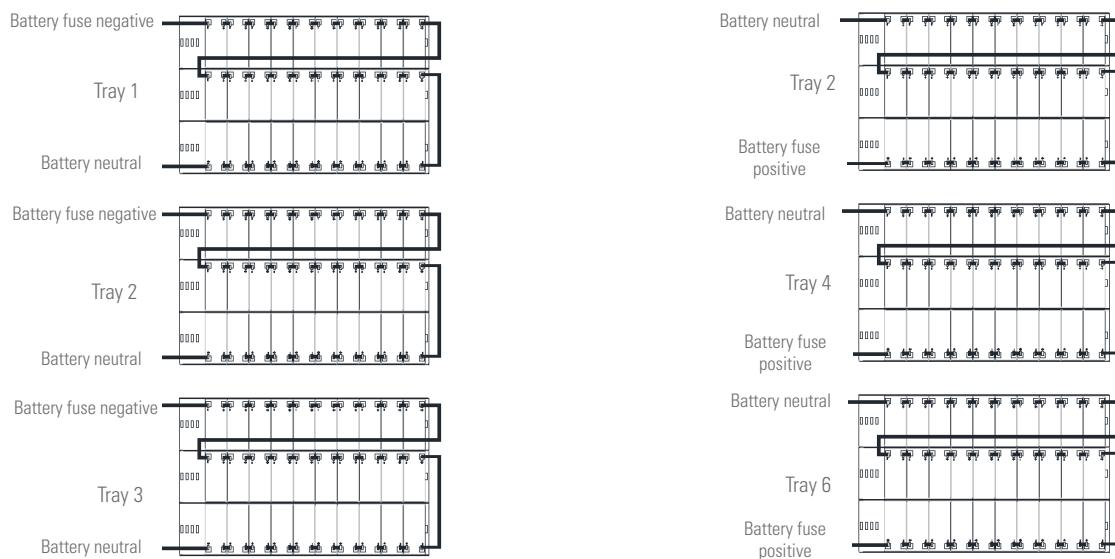
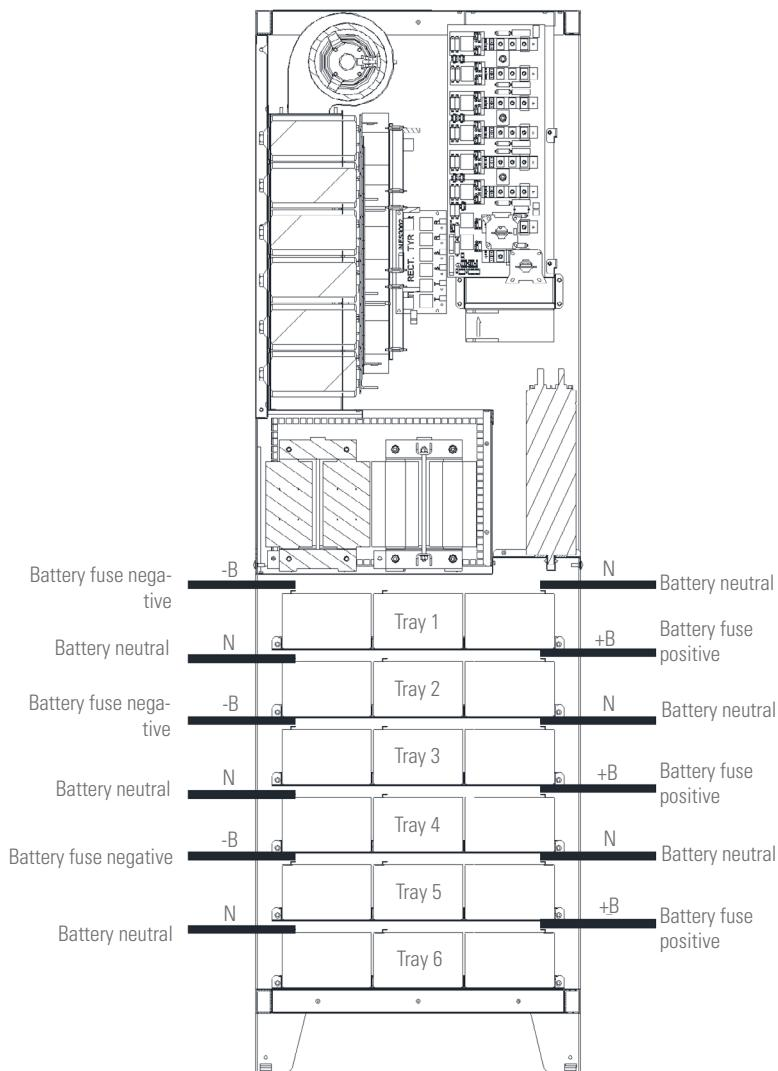

Fig. 27. Top view of the battery connection tray (12 V, 7-9-11 Ah).
Fig. 29. Front view of the battery connection tray (12 V, 7-9-11 Ah).
- Install the batteries received in separate packages as indicated in Fig. 27 and Fig. 29: